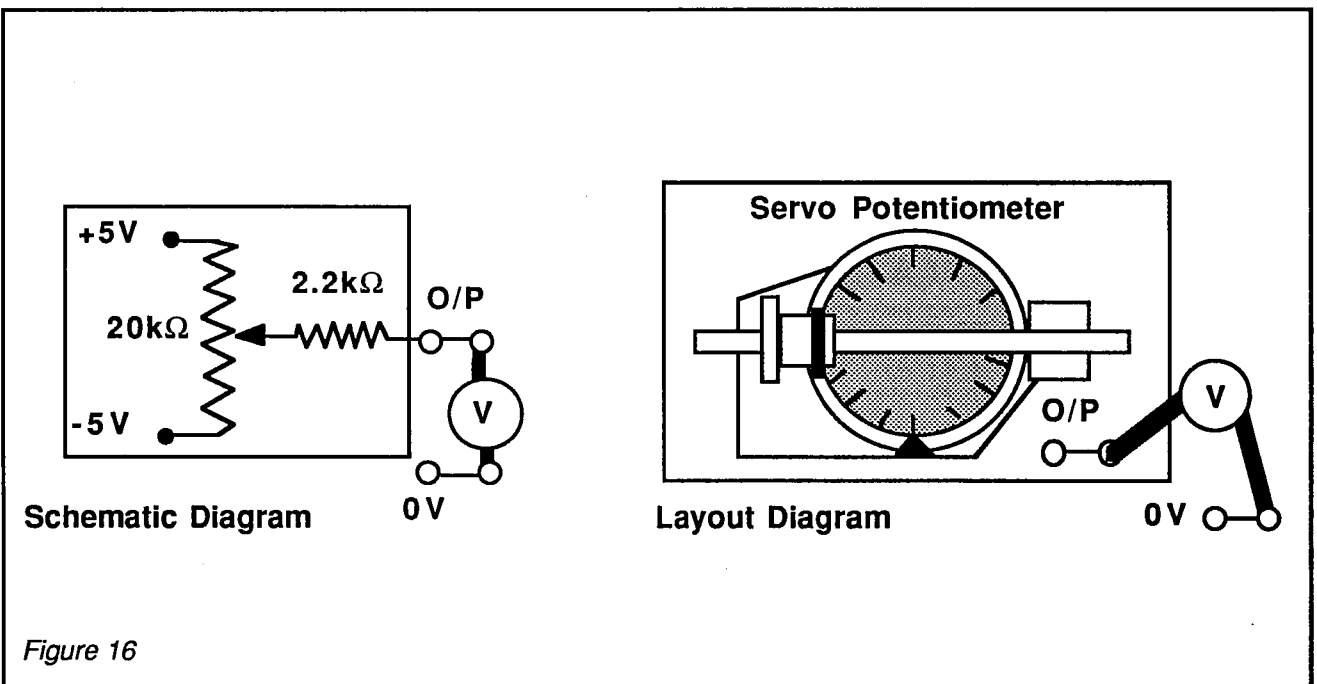

Figure 16
- Connect the voltmeter as shown in Fig 16 and switch the power supply ON.